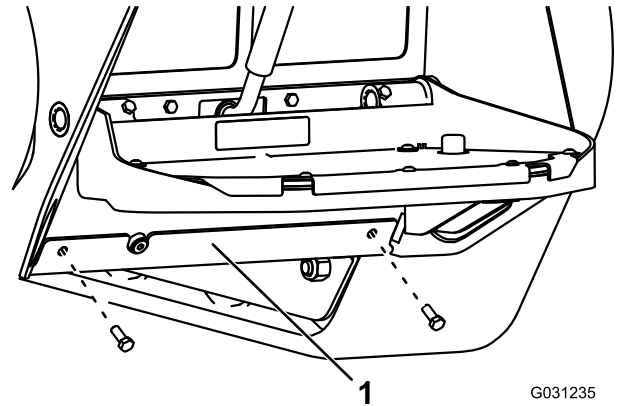

Figure 64
3. Remove the 2 bolts securing the bottom plate and remove the bottom plate (Figure 64).
7. Install the bottom plate (Figure 64).